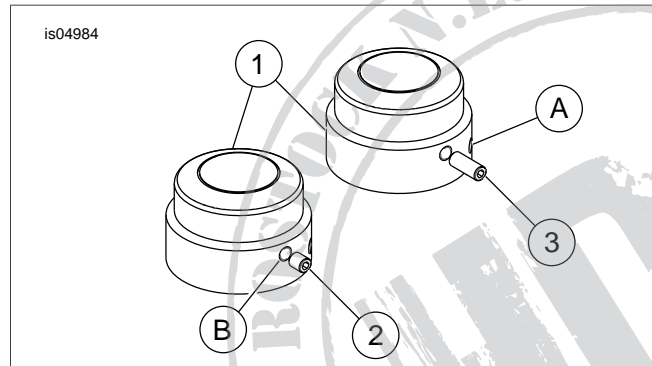

Figure 1. Front Axle Nut Covers
1. See Figure 1. Select a cover (1) and the **longer** set screw (2) from the kit.
3. Tighten the set screw securely with the hex wrench (4).
1. See Figure 1. Select the remaining cover and the **shorter** set screw (3) from the kit.